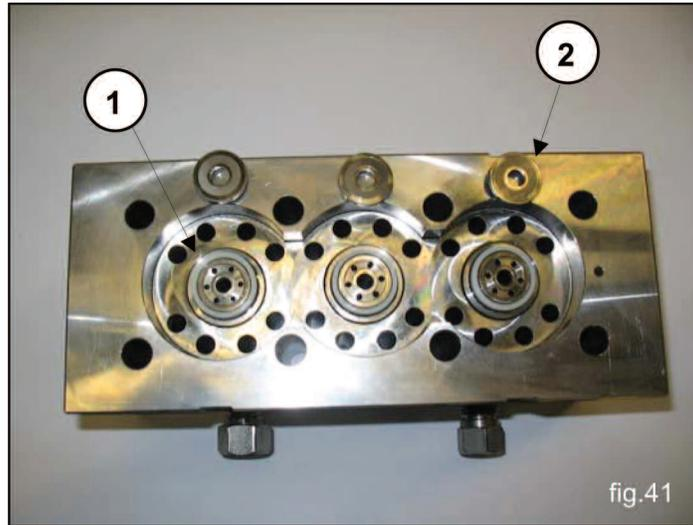

fig.41
During assembly of the liners, take care not to disperse the valve seats (1) and the flat valves (2) as indicated in fig. 41 as these, being positioned at stroke, could fall.